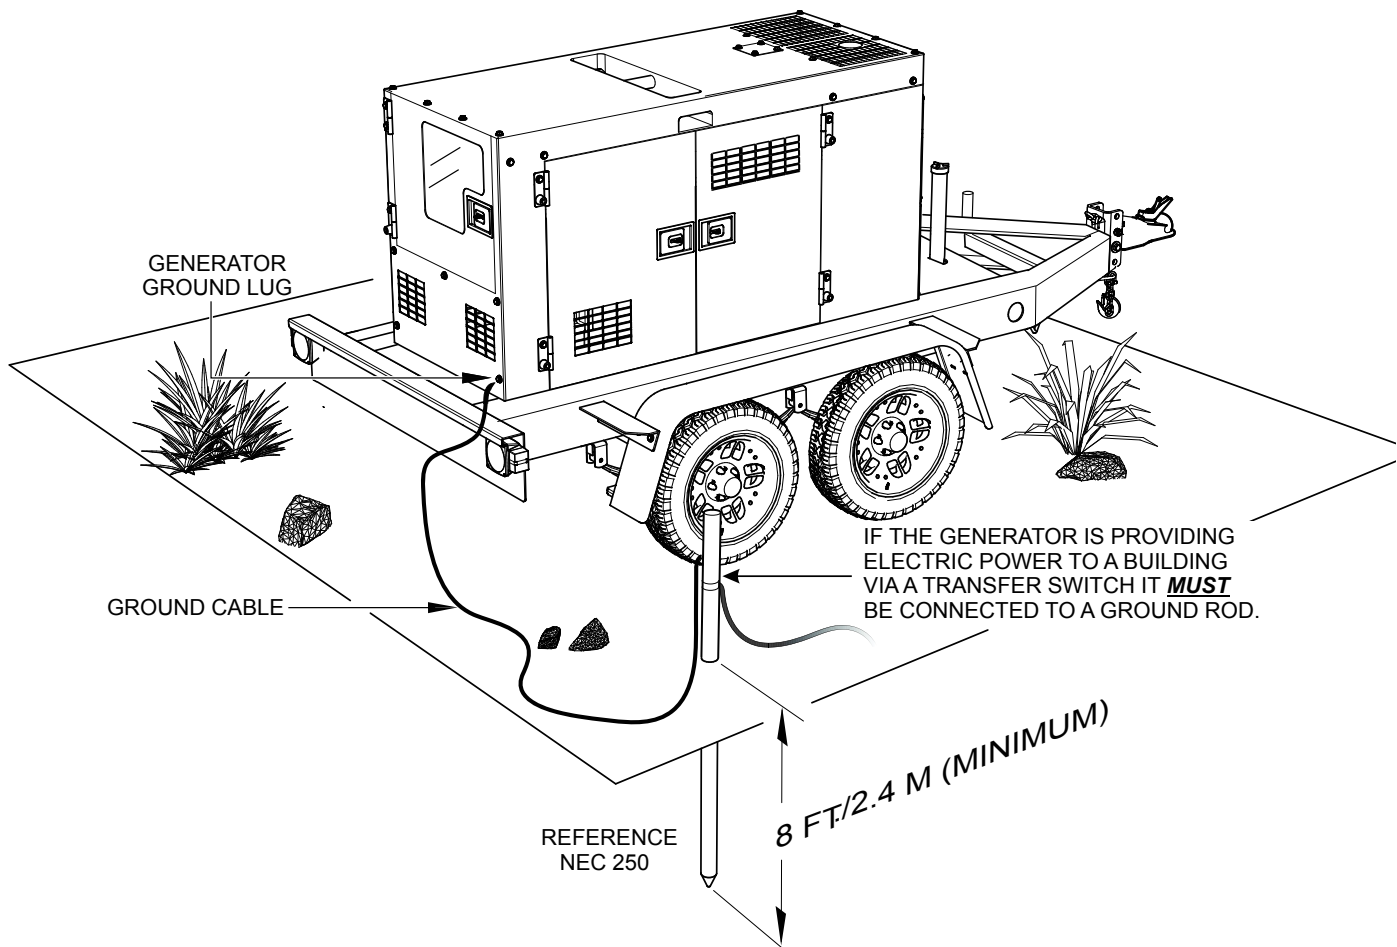

Figure 2. Typical Generator Grounding Application
Connect one end of the ground cable terminal to the generator ground point (Figure 2). Connect the other end of the ground cable to a suitable earth ground (ground rod).
The Occupational Safety and Health Administration (OSHA) and the National Electrical Code (NEC) recommend that if the generator is providing electrical power to a structure (home, office shop, trailer or similar) it **must** be connected to a grounding electrode system, such a driven ground rod (Figure 2).
If applicable, to guard against electrical shock and possible damage to the equipment, it is important to provide a good **EARTH** ground, (Figure 2).
2. When grounding of the generator (Figure 2) is required, connect one end the ground cable to the ground lug on the generator. Connect the other end of the ground cable to the ground rod (earth ground).